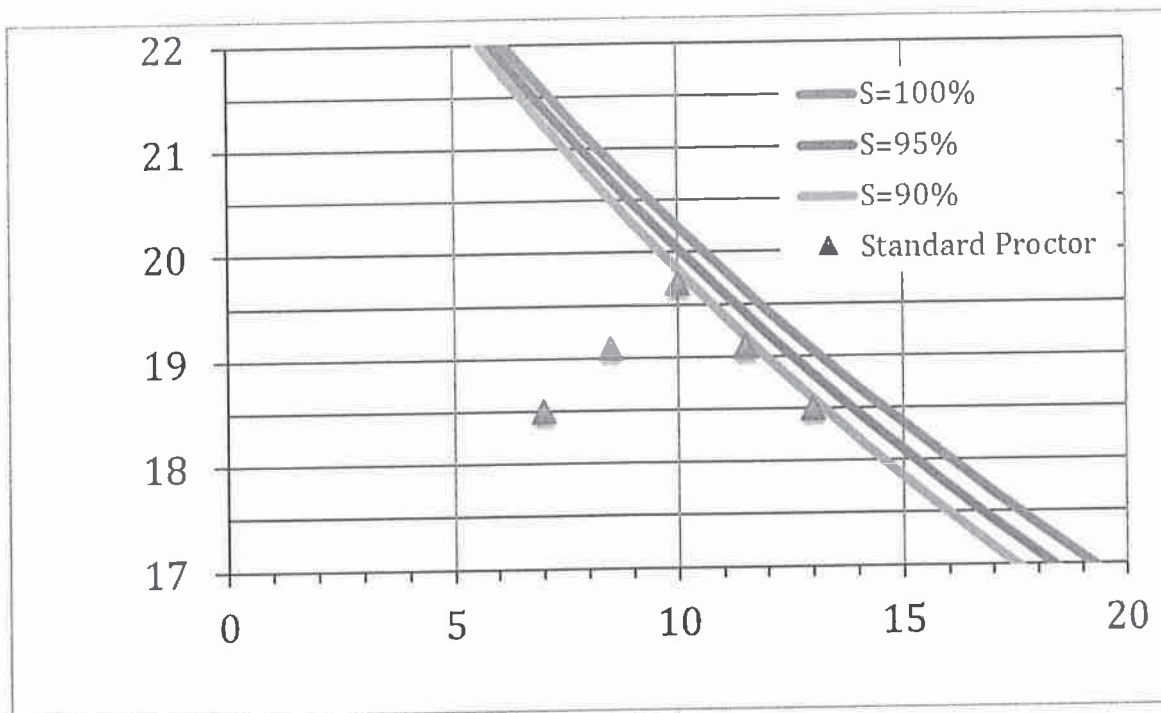

Figure Q2-1.
1. A standard compaction curve for a soil is plotted below in **Figure Q2-1**.